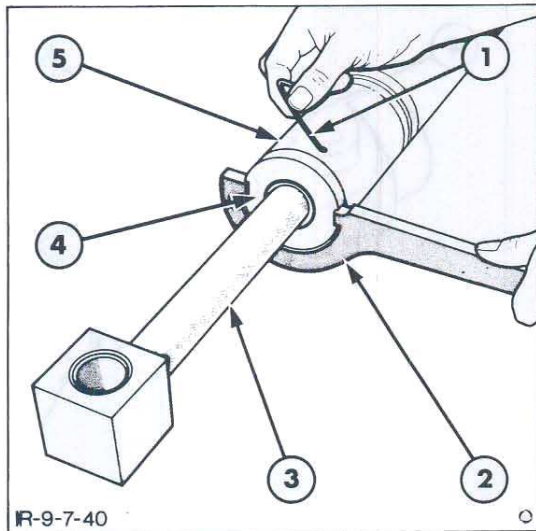

Figure 40
3. Using the special 'C' spanner applicable to the cylinder being disassembled and pulling the exposed tang of the locking wire, rotate the gland anti-clockwise and remove the wire, Figure 40.